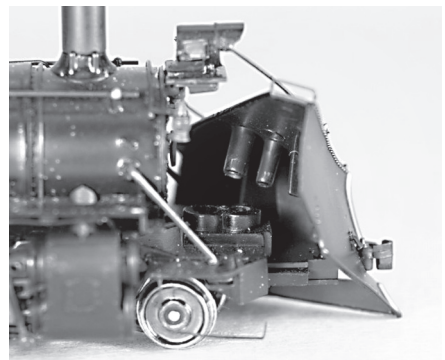

Figure 31 - Re-attach snowplow assembly
11. Turn the locomotive right side up and place the pins on the underside of the snowplow into the bosses on the top of the pilot, making sure to insert the coupler into the hole in the plow. See the photos in Figure 31 for clarification.